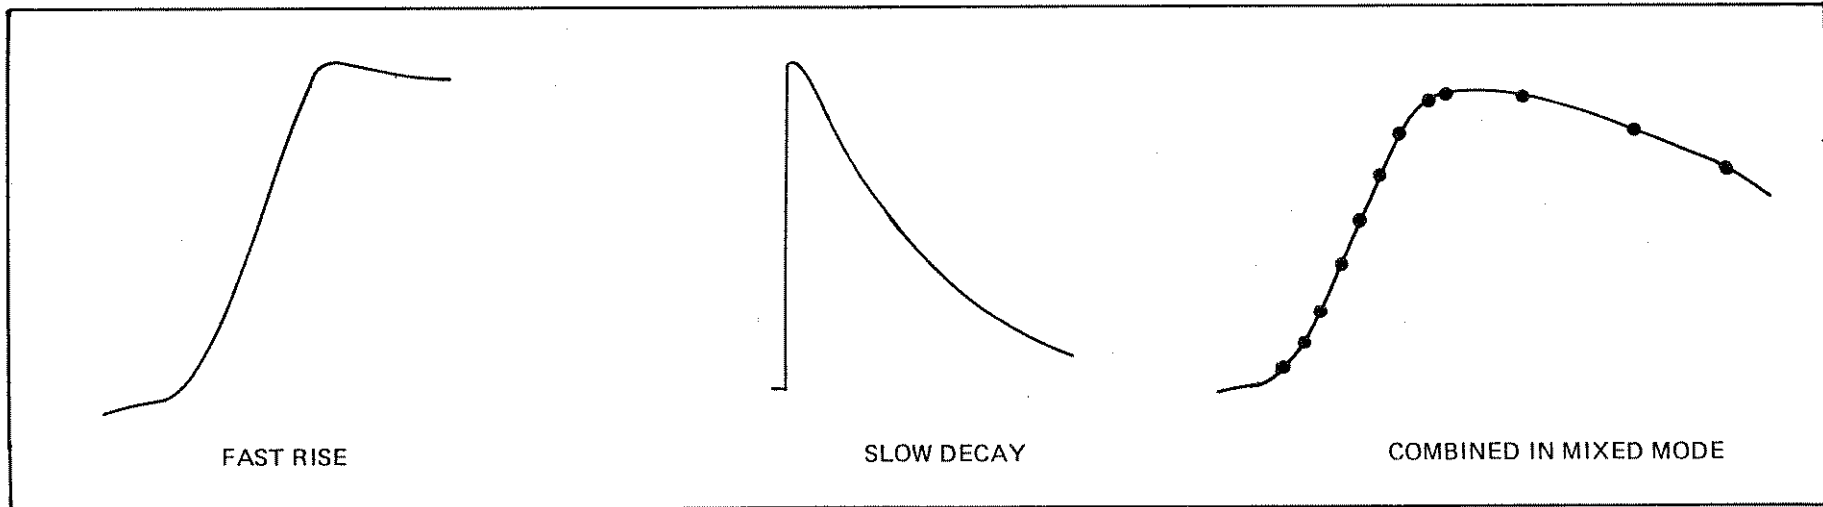

Figure 3-11. Fast Rise, Slow Decay, Combined in Mixed Mode
3-32. The transient recorded in (A), (B), and (C) in Figure 3-11 is characterized by a fast rise time and a slower exponential decay. In (A) a fast sample rate adequately captures the rise time but misses the decay time. In (B), a slower sample rate captures the decay time but is too slow to adequately characterize the rise time. In (C), the mixed mode switches between timebases, allowing both rise and fall to be characterized. Synchronous switching between timebases ensures valid timing measurements between data points on opposite sides of the timebase change point.